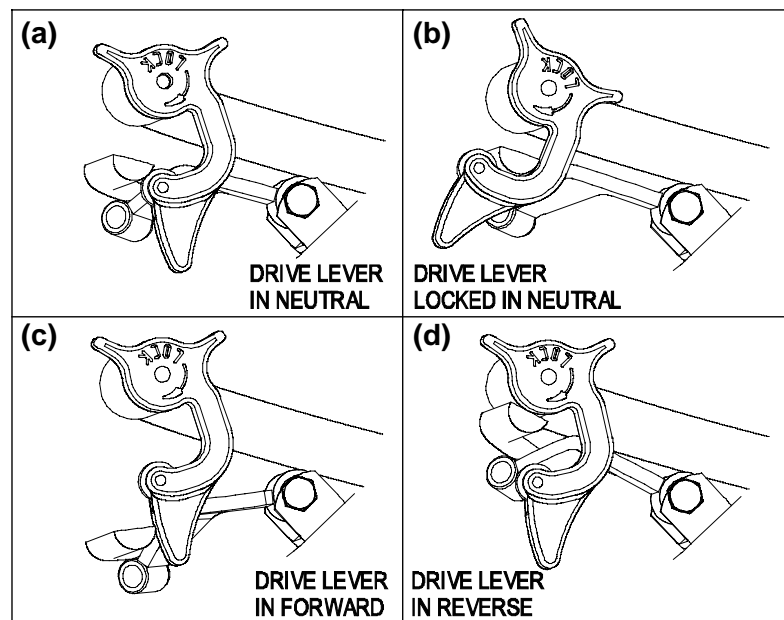

FIGURE 4
To lock the drive levers in “**neutral lock**”, squeeze the drive levers to the neutral position. See Figure 4 (a). Place thumbs on the inner lobe of the neutral lock latches and rotate them under the drive levers into the “neutral lock” position. See Figure 4 (b). Release the drive levers.
To place the drive levers in the “**forward**” position, slightly squeeze the drive levers while placing thumbs on the outer thumb lobe of the neutral lock latches (or the index finger on the front lobe) and rotate them from under the drive levers. **Slowly** and **carefully** release the drive levers. See Figure 4 (c).
To place the drive levers in the “**reverse**” position, squeeze the drive levers past the neutral position. See Figure 4 (d).
- For reverse:* Squeeze both drive levers into the reverse position (See Figure 4). For smooth operation of this machine, avoid quick, jerky movements of the drive levers. Move the drive levers smoothly and deliberately.